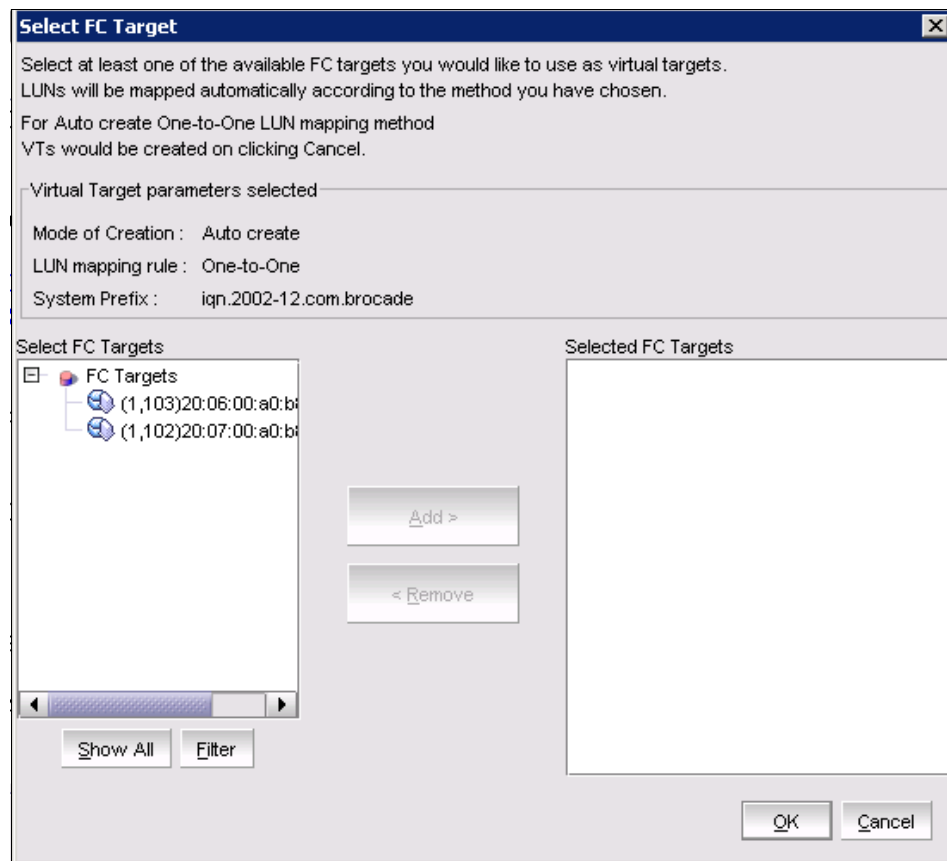

Figure 11-21 Select FC targets
6. The wizard presents the FC targets available in the FC SAN fabric (Figure 11-21). Select the FC targets to use with the iSCSI service. The two controllers from the DS4000 are visible and can be added.